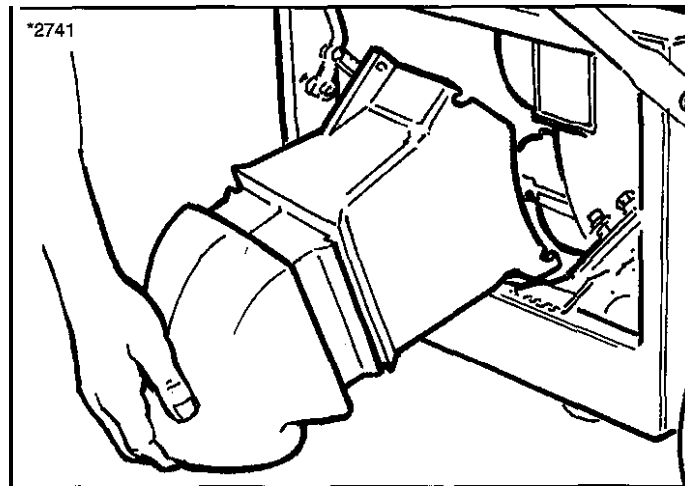

Figure 37. Remove Discharge Tube
12. Slide the discharge tube away from the mounting studs on the shredder housing, and remove the tube through the opening in the back of the frame (Figure 37).